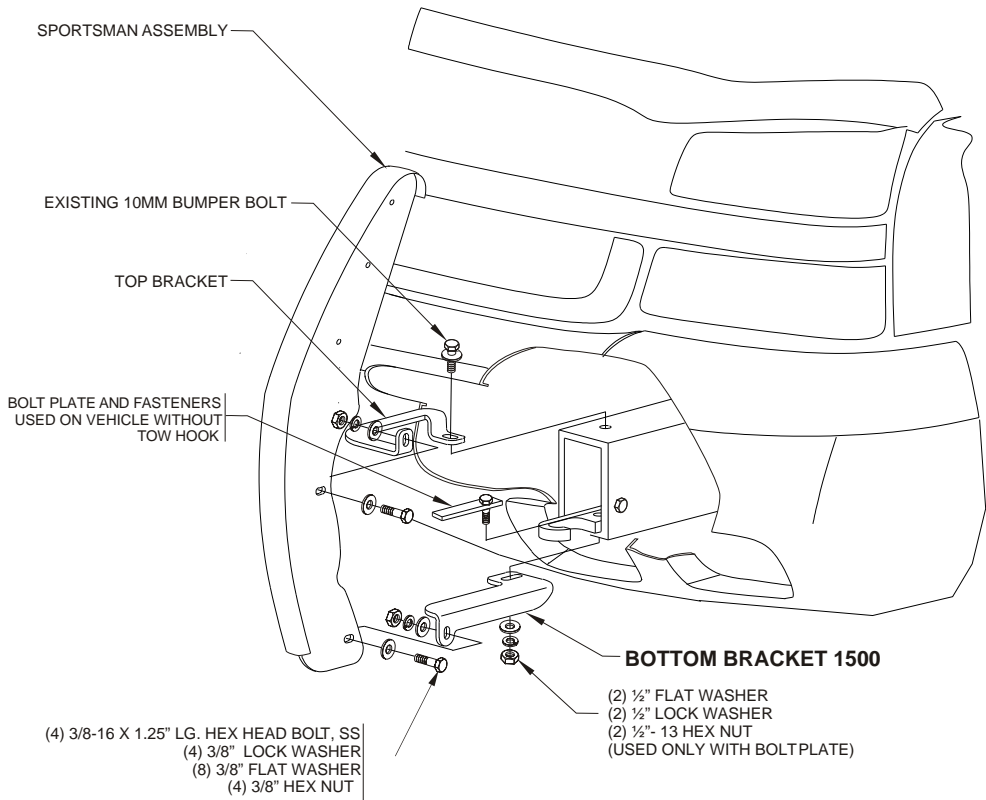

FIGURE 1
- STEP 3. FOR 1500 NON H.D.: From underneath the vehicle on the driver side, locate the tow hook mounting bolt on the bottom side of frame. Remove bolt and install bracket with factory bolt. SEE FIGURE 1. On vehicles without tow hooks, slide bolt plate in from the end of the frame rail and allow bolt to protrude through hole closest to end of frame. Install bracket. SEE FIGURE 1. Leave fasteners loose. Repeat for passenger side.
- STEP 5. From the front of vehicle, locate the top bumper mounting bolt. This can be seen by looking through the bumper cut outs in the front of the bumper opening. Use factory bumper bolt to secure bracket. SEE FIGURE 1. Leave loose. Repeat for opposite side.